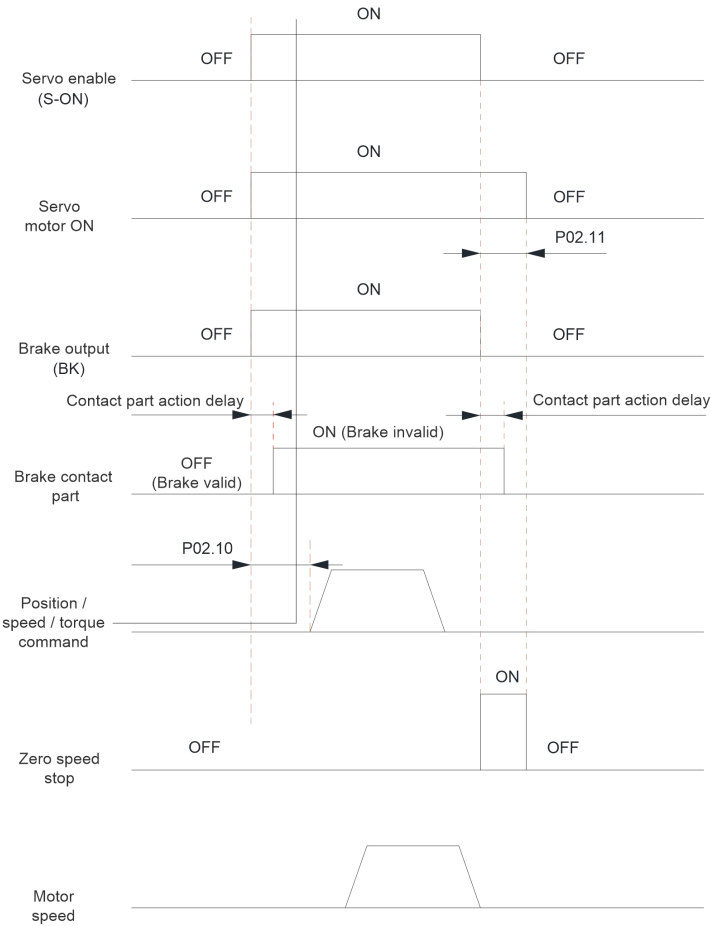

Fig.6-4 The brake timing when the servo motor is stationary
- As shown in Fig.6-4, the brake function when the servo motor is stationary as follows: